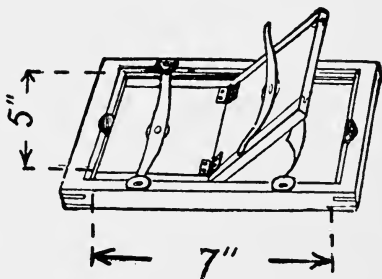

FIG. 55. A PHOTO PRINTING FRAME
*The Materials Required.*—Buy, or you can make, (1) a 5 x 7 *printing frame* as shown in Fig. 55 and get a sheet of clear glass to fit it, and (2) a couple of dozen sheets of 5 x 7 *blue-paper*41 which you can buy at any photographic supply house.